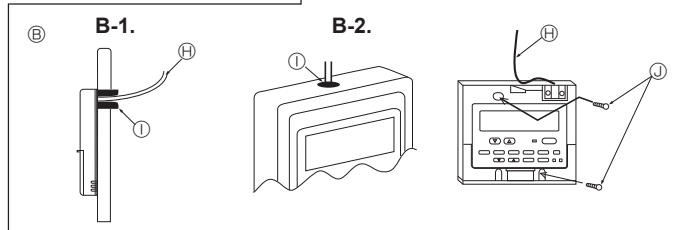

Fig. 6-3
(2) Seal the service entrance for the remote controller cord with putty to prevent possible invasion of dew drops, water, cockroaches or worms. (Fig. 6-3)
[Fig. 6-3]